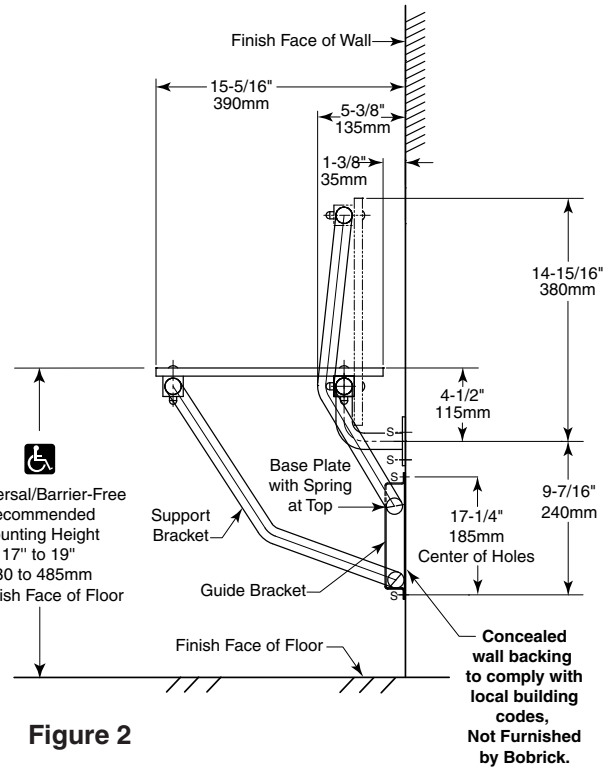

Figure 2
- For stud wall construction,** install backing (not furnished by Bobrick) (see Figure 2). Backing must be provided before the finished shower wall is applied. Secure with #14 x 2-1/2" (6.3 x 65mm) stainless steel mounting screws furnished by manufacturer.
- For prefabricated shower stalls,** adequate backing must be provided by the shower stall manufacturer (see Figure 2). Secure with #14 x 2-1/2" (6.3 x 65mm) stainless steel mounting screws furnished by manufacturer.
- Locate Guide Bracket on wall with bottom center of Support Tube resting on bottom of Guide Bracket (see Figure 2).
- B. When seat is raised parallel to the wall, it will remain in this position until lowered (see Figure 2).